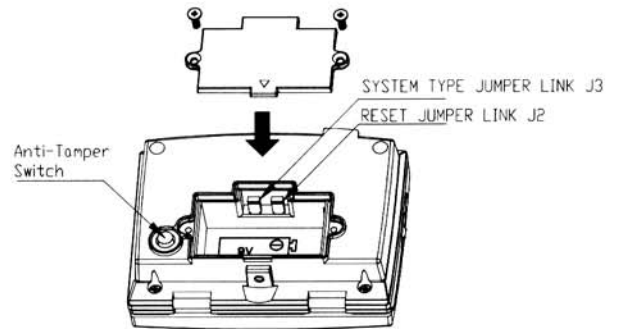

Fig. 2
4. Undo and remove the two fixing screws in the rear of the Keypad and remove the rear cover. (Fig. 2)
5. There are two jumper links located above the battery compartment. (Fig. 2)